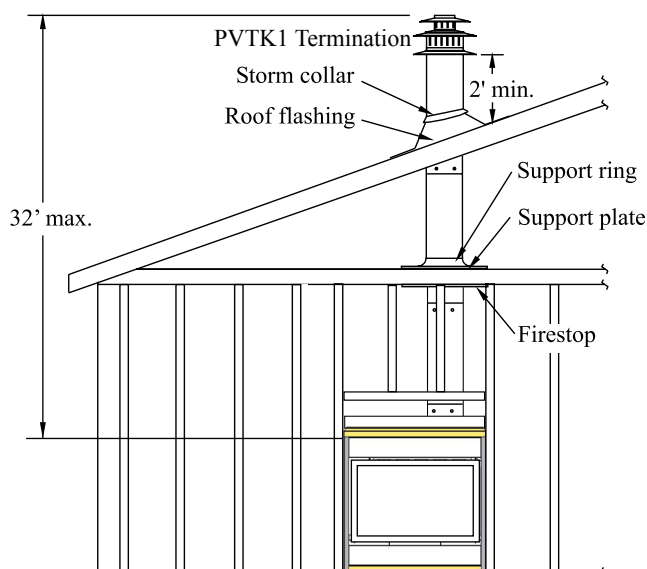

Figure 10. Top vent, Roof mounted termination with no offset in vent run.
- The Vertical termination must be a minimum 2' higher than where the termination exits the roofing materials, (asphalt shingles, cedar shakes, etc). This distance should be measured from the high side of the roof slope where the flue flashing intersects the roofing materials. (see **Figures 10 to 10c**).